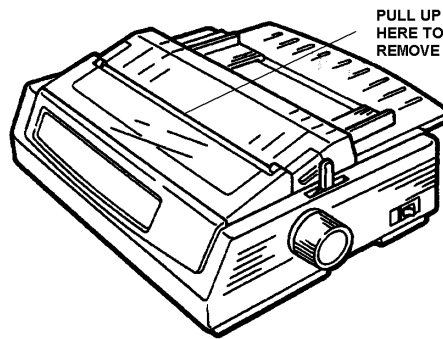

Figure 2, Ribbon Cartridge Inspection Cover Removal
21. Referring to Figure 2, remove the Ribbon Cartridge Inspection Cover, by gently pulling up on the middle of this cover until it pops off.